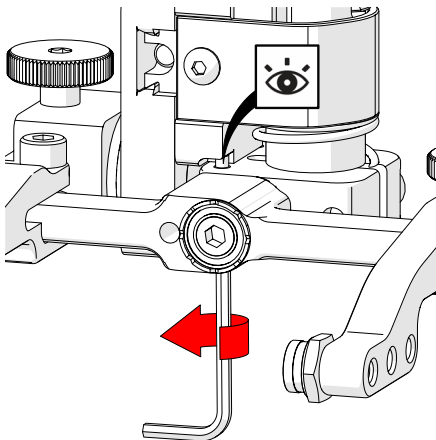

Fig. 144 - Raise opposite 90° stop post
8. Raise the stop post on the opposite side until the side of the post contacts the 90° stop point on the probe holder's base (Fig. 144).